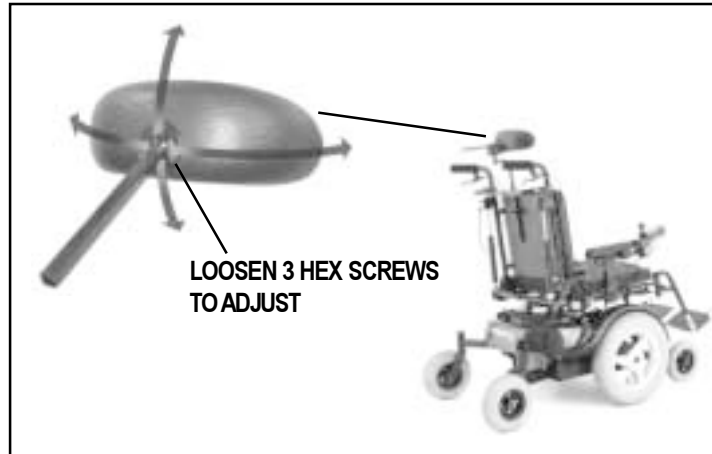

FIGURE 14B. Headrest Angle
1. Loosen the three hex screws *on the back of the headrest* (see figure 14B) using a 5/32-inch hex key.